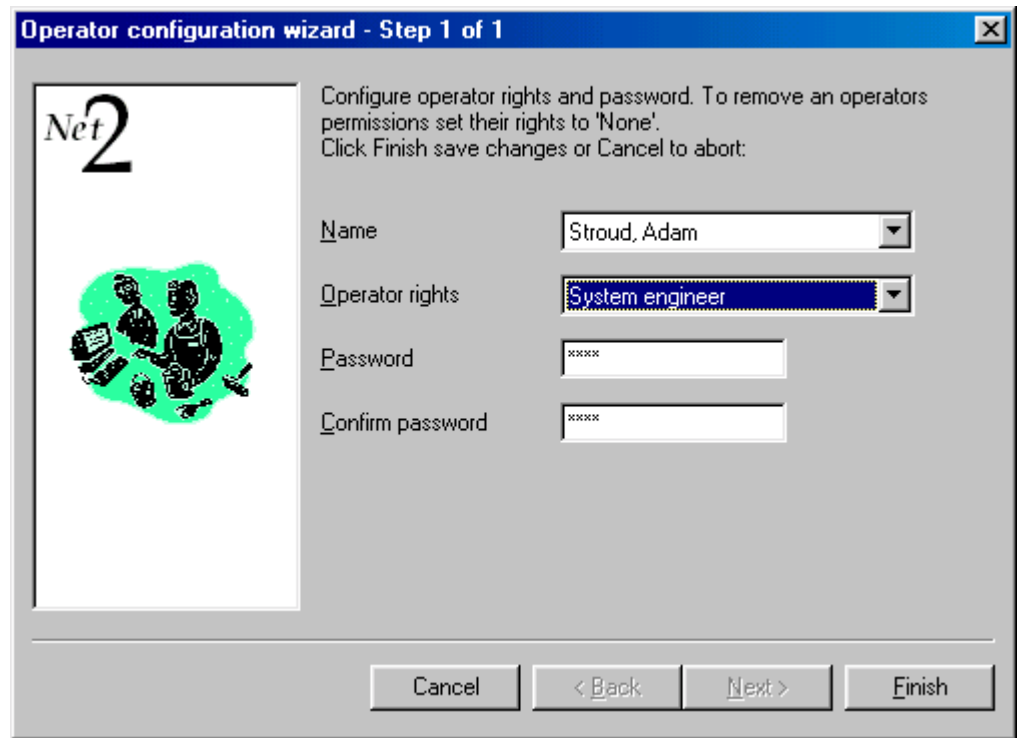

Figure 4.2
3. Select the relevant operator rights from the drop down list, see figure 4.2.